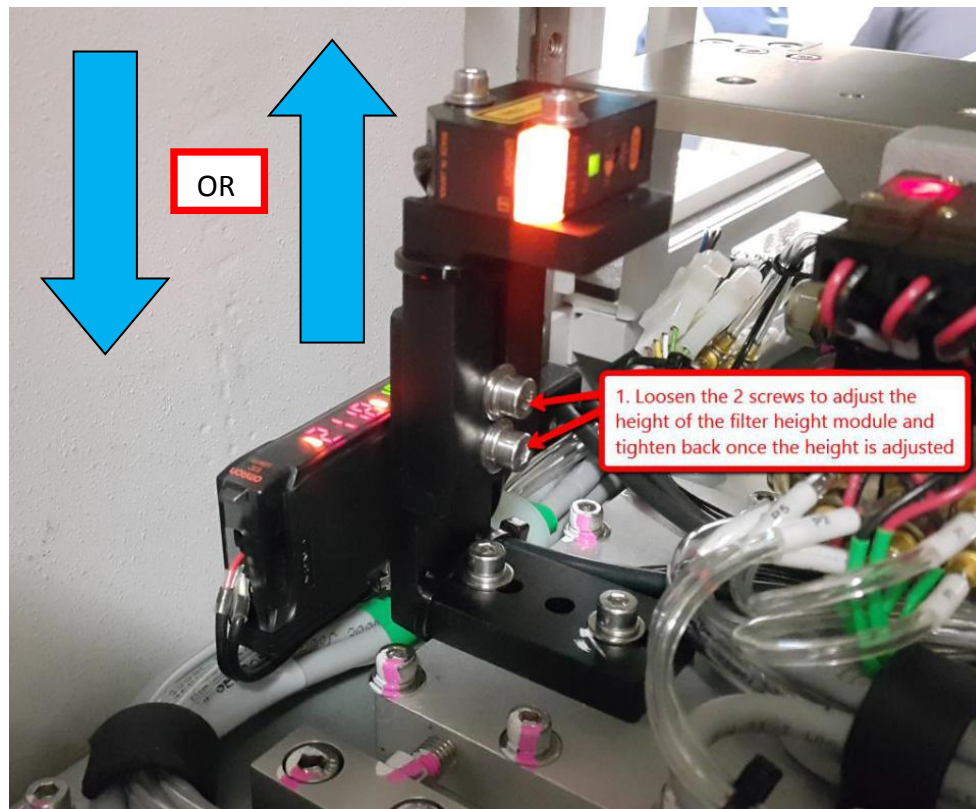

Figure 22 Filter Height Screw
10. By refer to expected spec in Table 2, perform sensor height adjustment as Figure 22